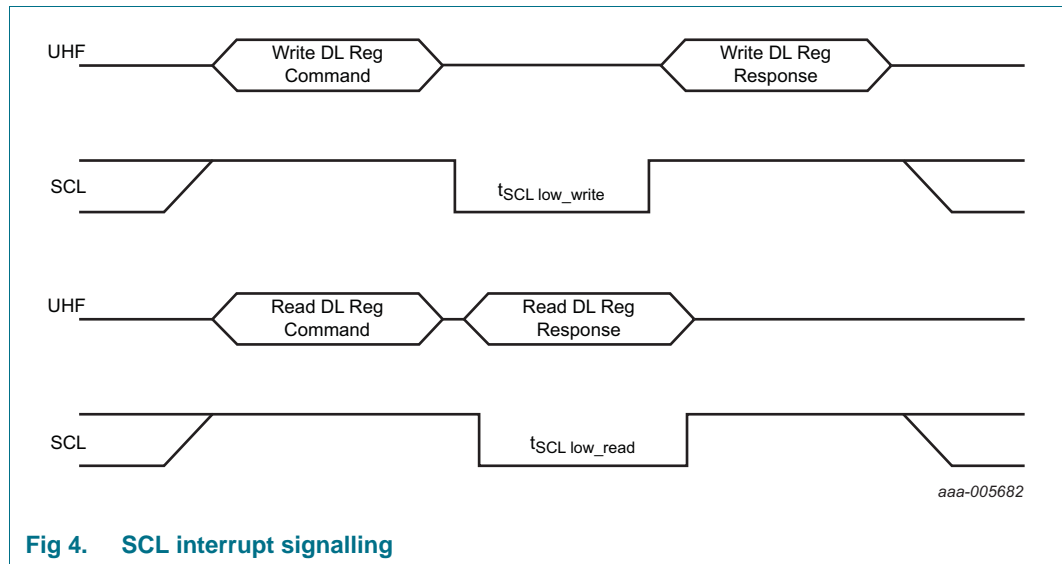

Fig 4. SCL interrupt signalling
- If the SCL INT enabler of the ConfigWord is set (20Bh) the SCL line will be pulled low for at least 210 μ s in case new data was written by the reader or at least 85 μ s in case new data has been read by the reader (see Figure 4 "SCL interrupt signalling" and Table 8 "Interrupt signaling via the I²C-SCL line timing").